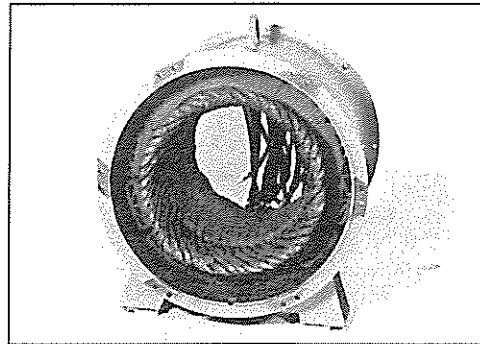

Figure 6-51
1. Clean dust and dirt from the stator frame and winding (see figure 6-51 and section 5).